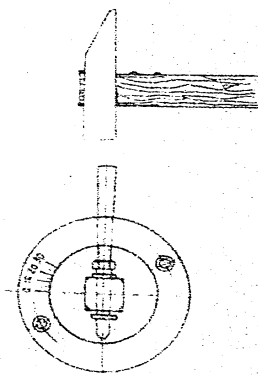

Fig. 29
1. Drain oil from the fuel pump and dismount the drive gear from it, having loosened the nut on the pointer and removing the pointer by knocking softly on the nut through the flange hole (see Fig. 29).